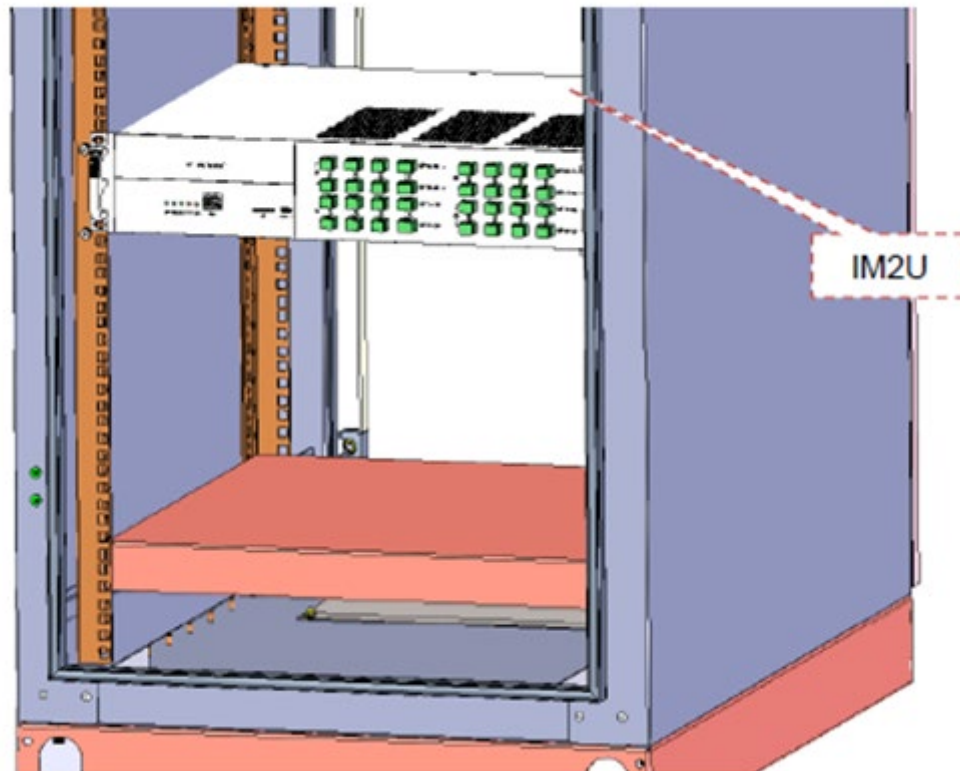

Figure 3-3 Push IM2U into the cabinet.
2. Push IM2U into the cabinet. as shown in Figure 3-3.